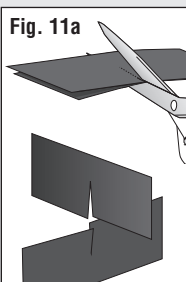
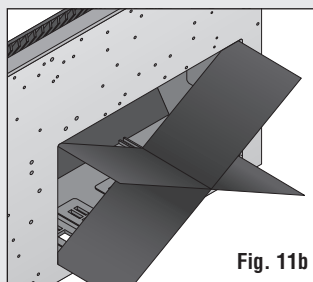

Fig. 11a
Fig. 11b
- Place sheets on top of each other and cut a notch half-way up (**Fig. 11a**). Assemble and insert into Building diagonally (**Fig. 11b**).